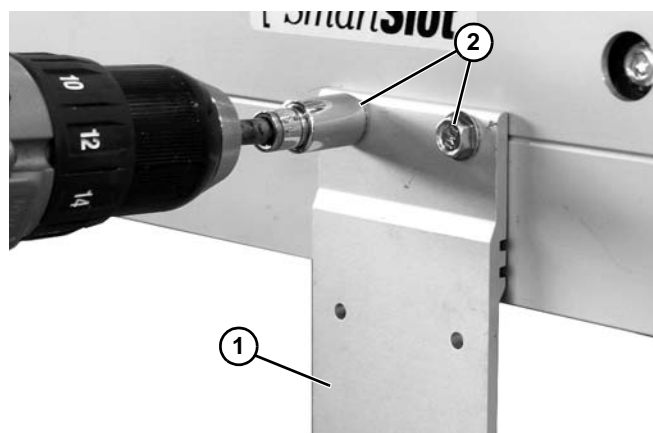

Figure 11
3. Measure an equal distance from end of head plate (on both sides of conveyor) and mark placement of mounting brackets (Figure 11, item 1). Fasten mounting brackets to conveyor with mounting screws (Figure 11, item 2) following proper methods of attachment instructions on page 12.